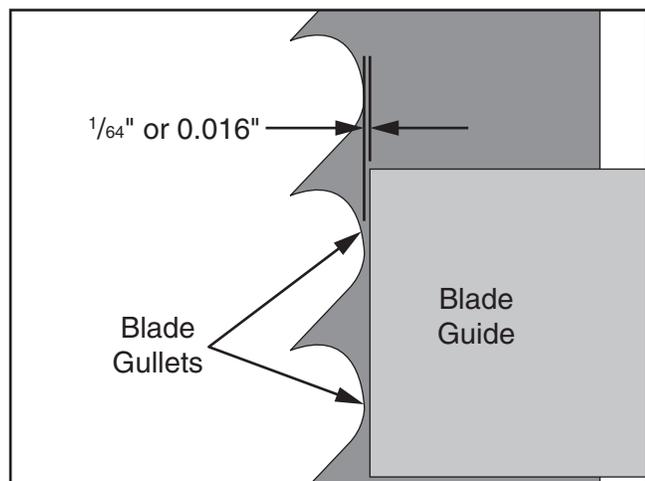

Figure 73. Blade guide positioned 0.016" behind blade gullets.
3. Adjust blade guide assembly until there is about 0.016" between front of blade guide and blade gullets (see **Figure 73**).